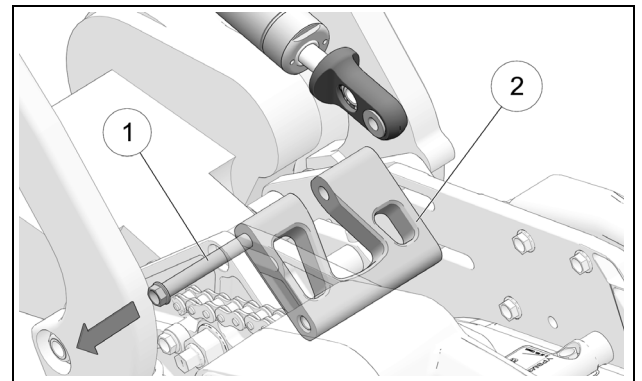

Figure 31
- Loosen and remove bike mount bolt (1) to install the Soft Strut in the Strut block (2). See Figure 31.